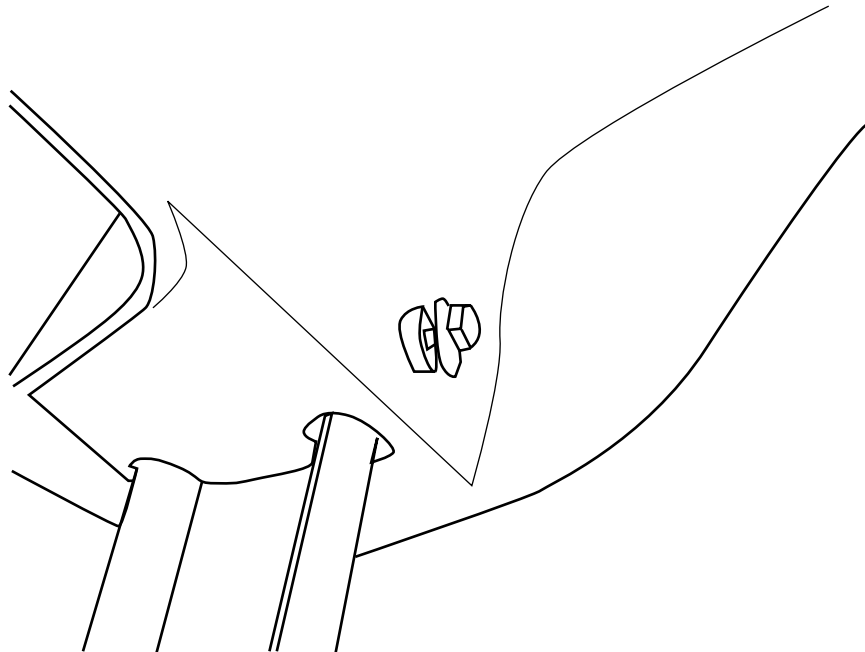

Figure 20
- 21)** To secure the ladder to the slide screw into the previously drilled holes (one per side rail) a (#11) 5/16" x 1" lag screw, a (#12) 5/16" x 7/8" flat washer and a (#13) 5/16" x 3/4" rubber washer tightening to 8 ft.-lbs of torque. See Figure 20.